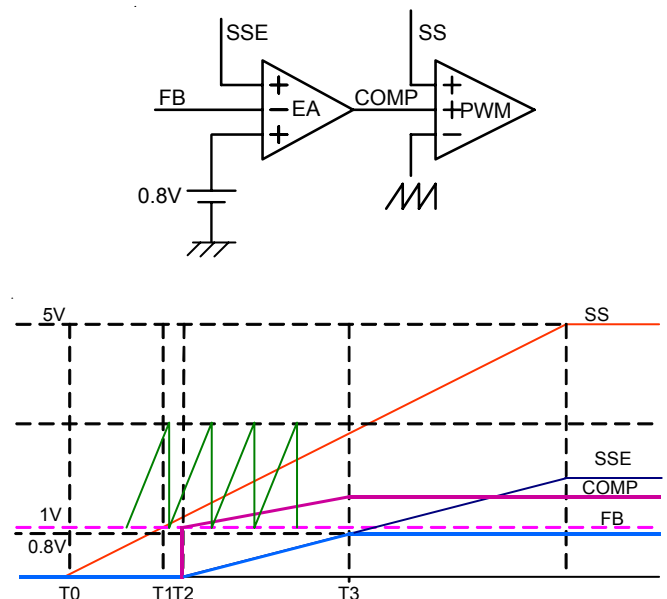

Figure 1. Timing diagram of softstart
The behavior of RT9232A Soft-Start can be simply described as shown as Figure.1 below; and the Soft-Start can be sliced to several time-frames with specific operation respectively.
The RT9232A initiates the softstart cycle as shown in Figure 1 when POR function is OK. An internal 10uA current source charges an external capacitor on SS pin (C_{SS}) to 5V. The softstart function produces an SSE signal that is equal to (SS-1.2V)/2. Error Amplifier (EA) and PWM comparator are triple-input devices. The non-inverting input